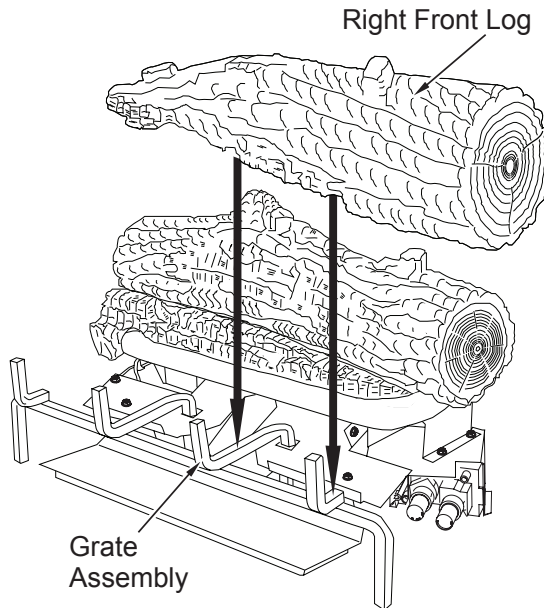

Figure 36 - Installing Right Front Log
3. Place the right front log onto the base and grate assembly as shown in Figure 36. The log has notches in the bottom for the grate.